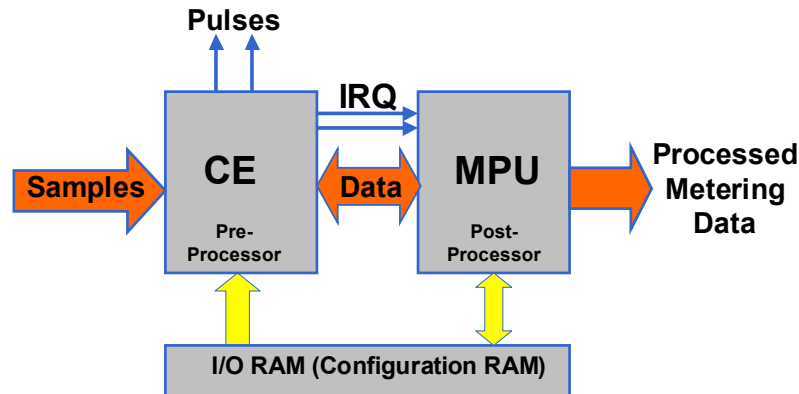

Figure 26: MPU/CE Data Flow
The data flow between CE and MPU is shown in Figure 26. In a typical application, the 32-bit compute engine (CE) sequentially processes the samples from the voltage inputs on pins IA, VA, IB, and VB, performing calculations to measure active power (Wh), reactive power (VARh), A²h, and V²h for four-quadrant metering. These measurements are then accessed by the MPU, processed further and output using the peripheral devices available to the MPU.